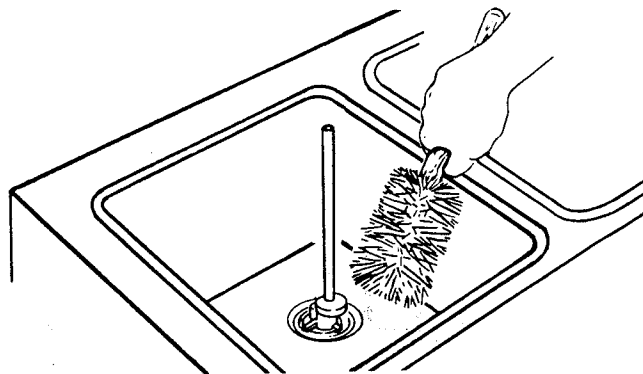

Figure 11. Sanitizing Hopper
- D. Clean sides of hopper, mix inlet regulator and underside of hopper cover using a sanitized soft bristle brush dipped in the sanitizing solution (Fig. 11).